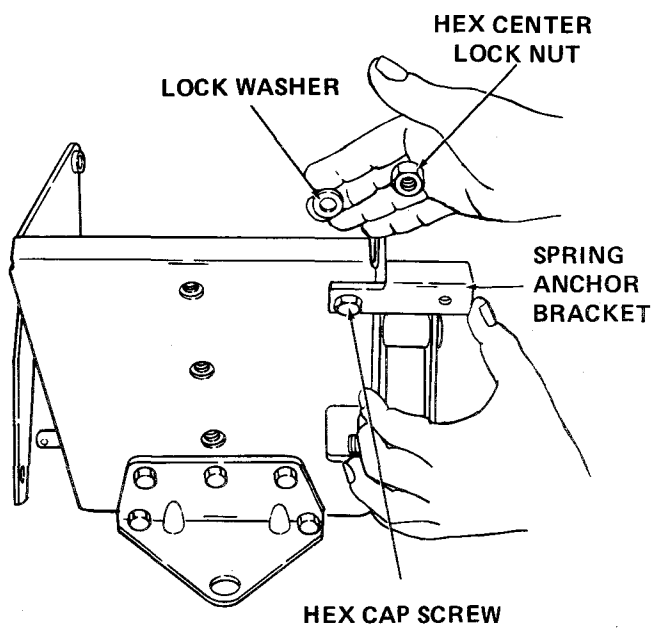

Figure A-10
- e. Assemble spring anchor bracket (10) to 3-point hitch plate assembly with hex cap screws (H), lock washer (I) and hex center lock nut (J). Refer to Figure A-10.